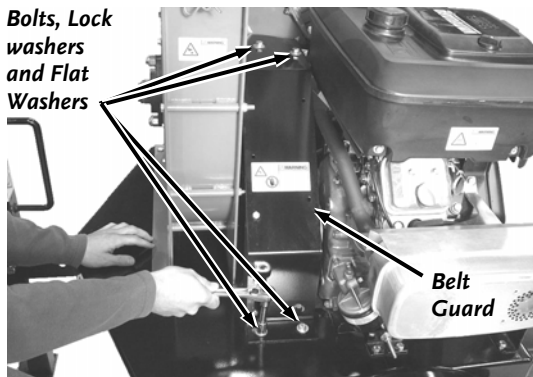

Figure 25
1. Remove the four Bolts, Lock Washers and Flat Washers from the Belt Guard using a 1/2" Wrench (**Figure 25**).
10. Reinstall the four Bolts, Lockwashers and Flatwashers using a 1/2" Wrench (**Figure 25**).
**NOTE:** Check and re-tighten the Drive Belt, if necessary, after an initial break-in period of one (1) hour.